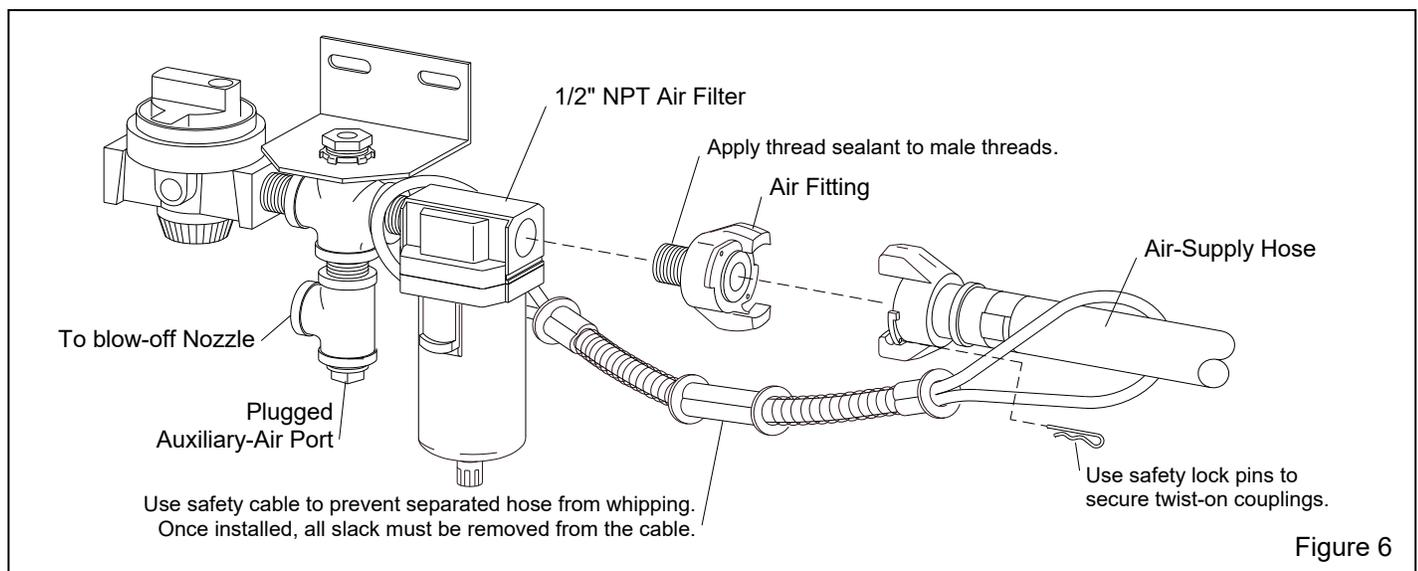

Figure 6
A separate air line is required for the dust-collector pulse. The line may be connected to the auxiliary-air port on the cabinet plumbing, as shown in Figure 6.
2.3.1 Refer to Paragraph 2.3.2 to determine the recommended air-supply hose size, then refer to Figure 6 and apply thread sealant to the male threads of an air fitting that is compatible with the air-supply hose fitting, and install it onto the 1/2-NPT air filter located under the cabinet hopper. The style of connection shown in Figure 6 is for reference only.